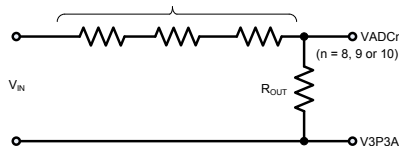
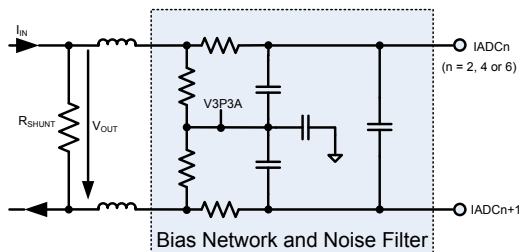
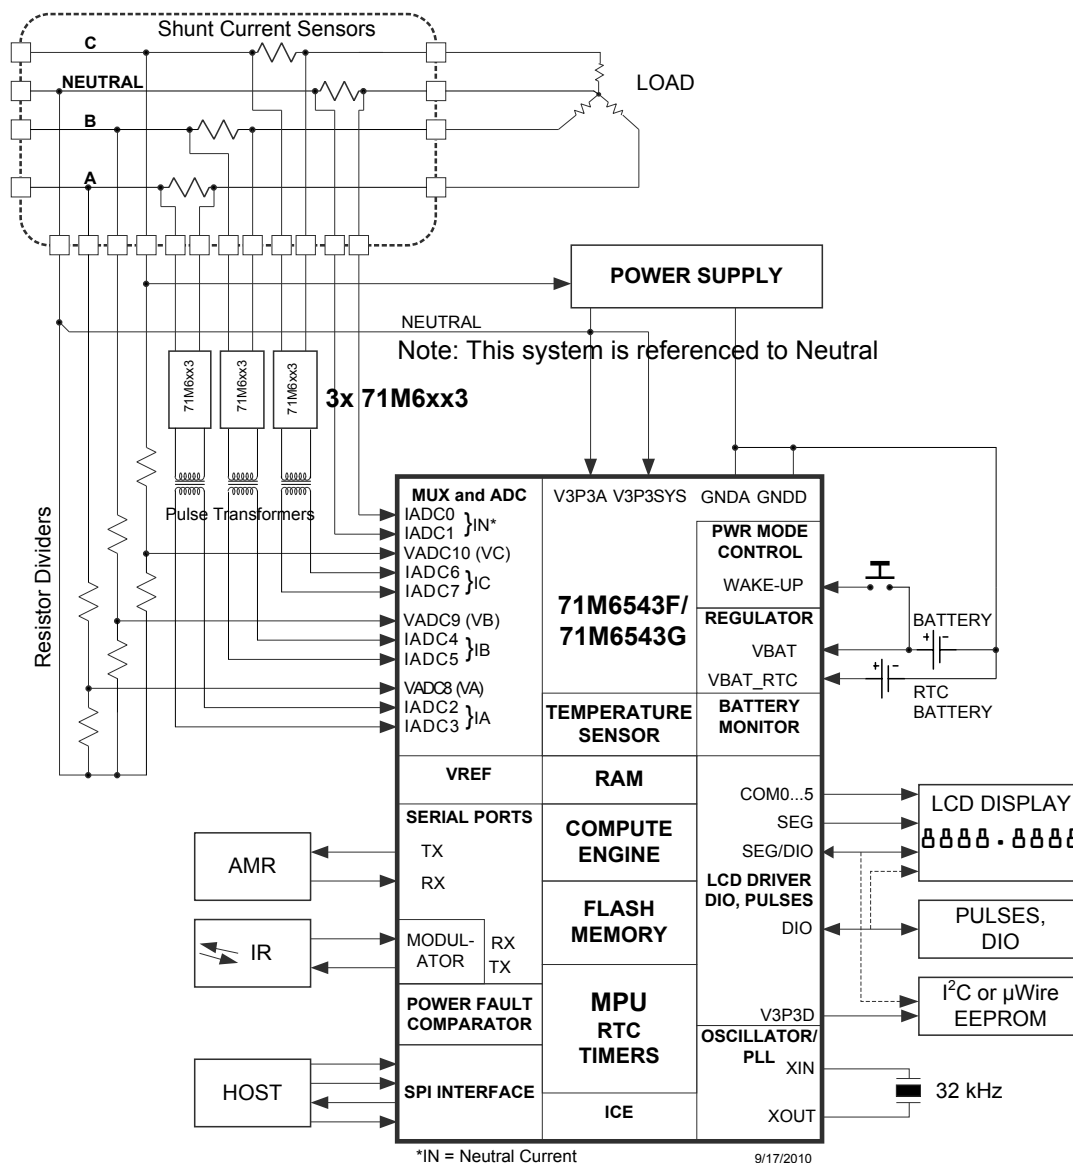
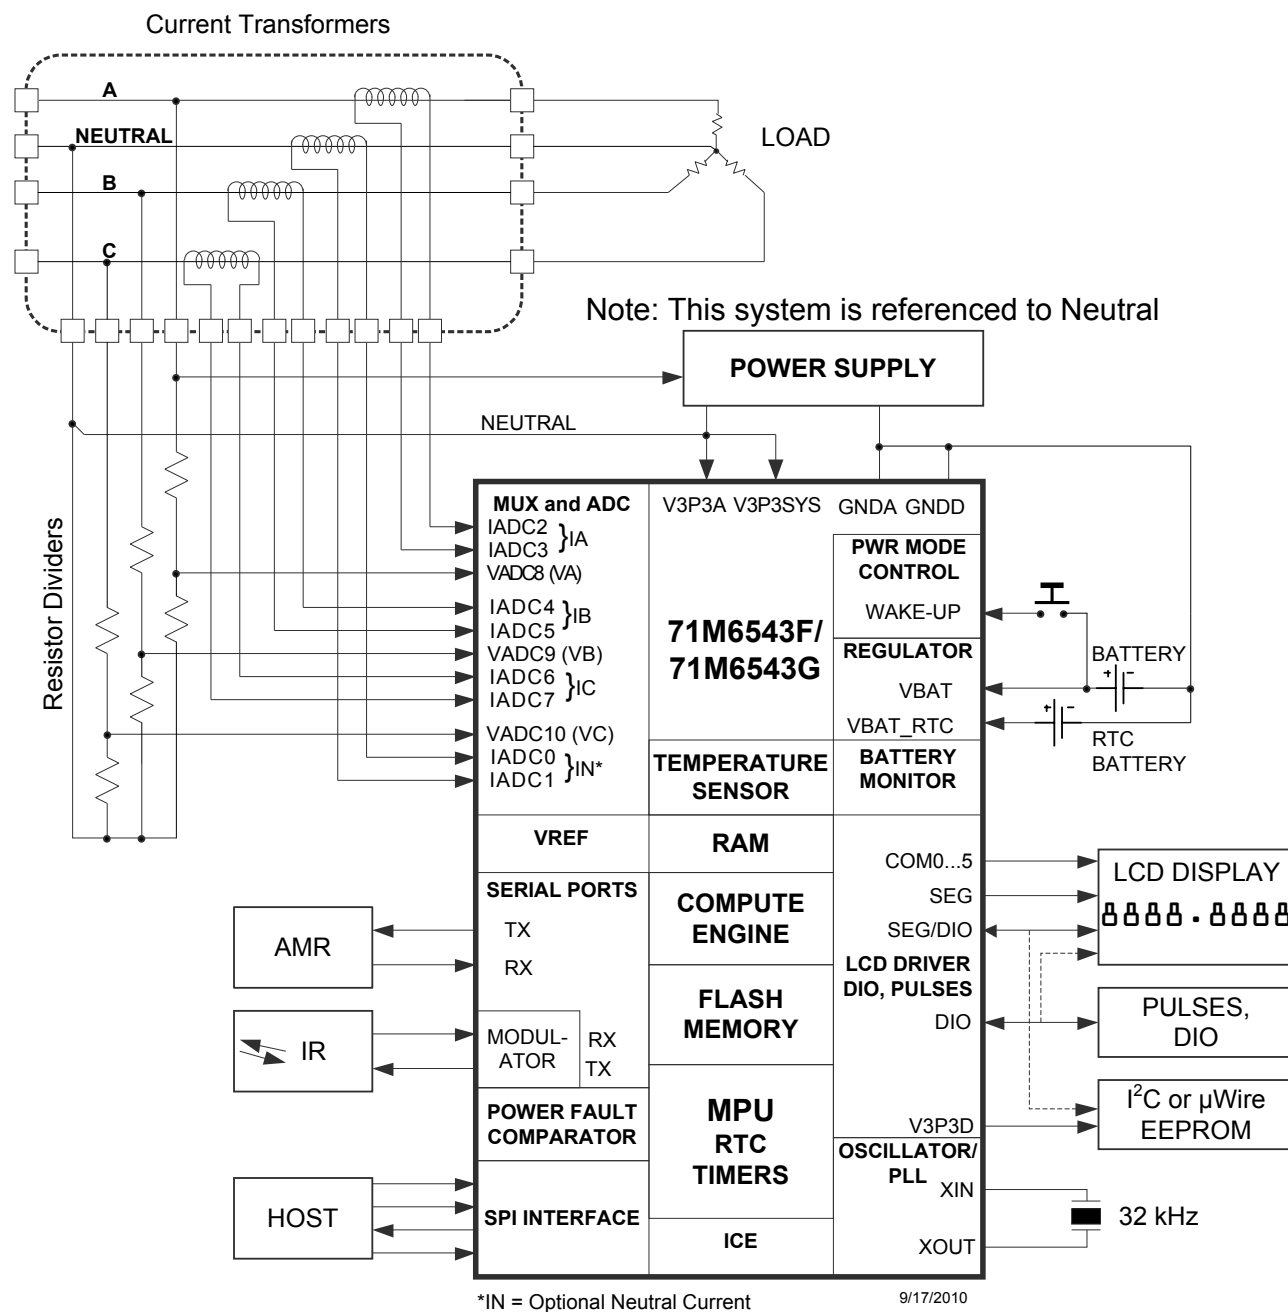

Figure 27: Resistive Voltage Divider (Voltage Sensing)
Figure 30: Differential Resistive Shunt Connections (Current Sensing)
Figure 31: System Using Three-Remotes and One-Local (Neutral) Sensor
Figure 32. System Using Current Transformers
Figure 27 through Figure 30 show voltage-sensing resistive dividers, current-sensing current transformers (CTs) and current-sensing resistive shunts and how they are connected to the voltage and current inputs of the 71M6543. All input signals to the 71M6543 sensor inputs are voltage signals providing a scaled representation of either a sensed voltage or current.
Figure 31 shows a typical connection for current shunt sensors; using the 71M6xx3 (polyphase) isolated sensors. Note that one shunt current sensor is connected without isolation, which is the neutral current sensor in this example (connected to pins IADC0-IADC1). Each 71M6xx3 device is electrically isolated by a low-cost pulse transformer. The 71M6543 current sensor inputs must be configured for remote sensor communications, as described in 2.2.8 71M6xx3 Isolated Sensor Interface (page 22). Flexible remapping using the I/O RAM registers  $MUXn\_SEL[3:0]$  allows the sequence of analog input pins to be different from the standard configuration (a corresponding CE code must be used). See Figure 2 for the AFE configuration corresponding to Figure 31.
Figure 32 shows a polyphase system using four current transformers to support optional Neutral current sensing for anti-tamper purposes. The Neutral current sensing CT can be omitted if Neutral current sensing is not required. The system is referenced to Neutral (i.e., the Neutral rail is tied to V3P3A and V3P3SYS).
This section discusses metrology temperature compensation for the meter designs where current shunt sensors are used in conjunction with the 71M6xx3 remote isolated sensors, as shown in Figure 31.
Referring to Figure 31, the VADC8 (VA), VADC9 (VB) and VADC10 (VC) voltage sensors are always directly connected to the 71M6543. Thus, the precision of the voltage sensors is primarily affected by VREF in the 71M6543. The temperature coefficient of the resistors used to implement the voltage dividers for the voltage sensors (see Figure 27) determine the behavior of the voltage division ratio with respect to temperature. It is recommended to use resistors with low temperature coefficients, while forming the entire voltage divider using resistors belonging to the same technology family, in order to minimize the temperature dependency of the voltage division ratio. The resistors must also have suitable voltage ratings.
Table 66 shows the five *GAIN\_ADJx* equation output storage locations and the voltage or current sensor channels for which they compensate for the 1 Local / 3 Remote configuration shown in Figure 31.
**Table 66: GAIN\_ADJn Compensation Channels (Figure 2, Figure 31, Table 1)**
This section discusses metrology temperature compensation for meter designs where Current Transformer (CT) sensors are used, as shown in Figure 32.
Referring to Figure 32, the VADC8 (VA), VADC9 (VB) and VADC10 (VC) voltage sensors are directly connected to the 71M6543. Thus, the precision of the voltage sensors is primarily affected by VREF in the 71M6543. The temperature coefficient of the resistors used to implement the voltage dividers for the voltage sensors (see Figure 27) determine the behavior of the voltage division ratio with respect to temperature. It is recommended to use resistors with low temperature coefficients, while forming the entire voltage divider using resistors belonging to the same technology family, in order to minimize the temperature dependency of the voltage division ratio. The resistors must also have suitable voltage ratings.
**Table 67: GAIN\_ADJx Compensation Channels (Figure 3, Figure 32, Table 2)**